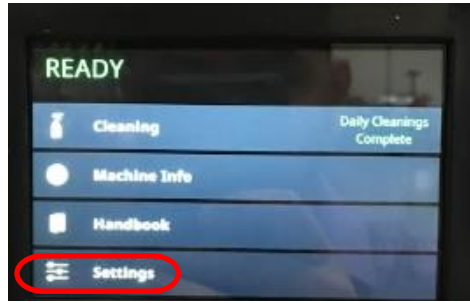

Figure E12: Home Screen with Settings Circled.
19. Wait until READY indicator appears at top of screen. **See Figure E12.**
20. Select SETTINGS. **See Figure E12.**